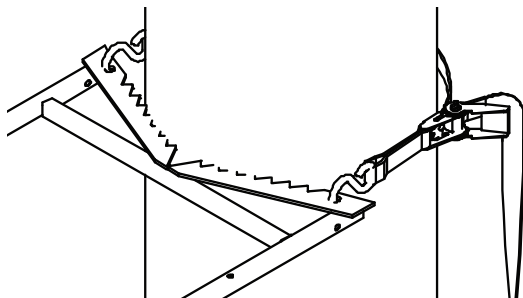

FIGURE 7
4. Standing on ladder step, lean toward tree with ratchet strap now in hand, hook "S" hook with long strap through hole provided on tree blade. Feed the long strap through the center (slot) of ratcheting mechanism and back around through tightening lever. **SEE FIGURES 7 & 8.**
Wrap entire ratchet assembly around tree and hook other "S" hook through opposite tree blade hole. Pull tail of long strap until most of the slack is taken out. Be sure entire strap is even and at the same level all around tree. "Ratchet" tight to tree, this will securely attach ladder to tree and prevent movement. **SEE FIGURE 7 & 9.**